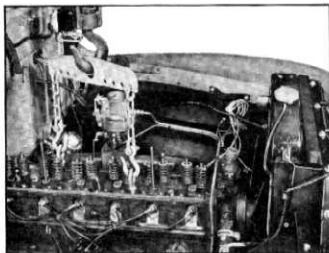

Fig. 39—Installation of Engine Lifting Attachment
23. On models with 3-speed transmission, remove the fourth cylinder head bolt from the rear on the left side and the third bolt from the rear on the right side. On models with Powerglide transmission, remove the second cylinder head bolt from the rear on the left side and the fourth bolt from the rear on the right side. Then, using lift kit J-4536, install the proper lifting tool (fig. 39) and raise engine slightly.